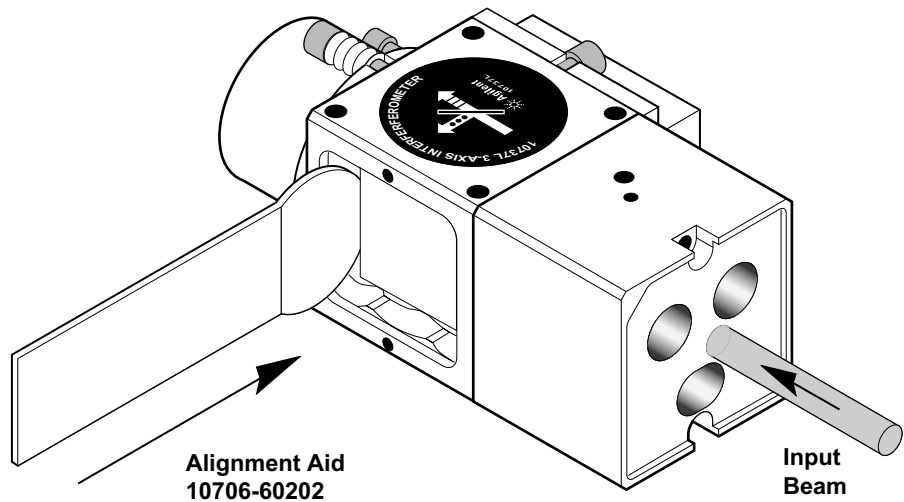

Figure 70-10. Agilent 10737L Compact Three-Axis Interferometer with 10706-60202 Alignment Aid
- 3 Place the 10706-60202 alignment aid between the beam splitting cube and the reference mirror (see Figure 70-10).